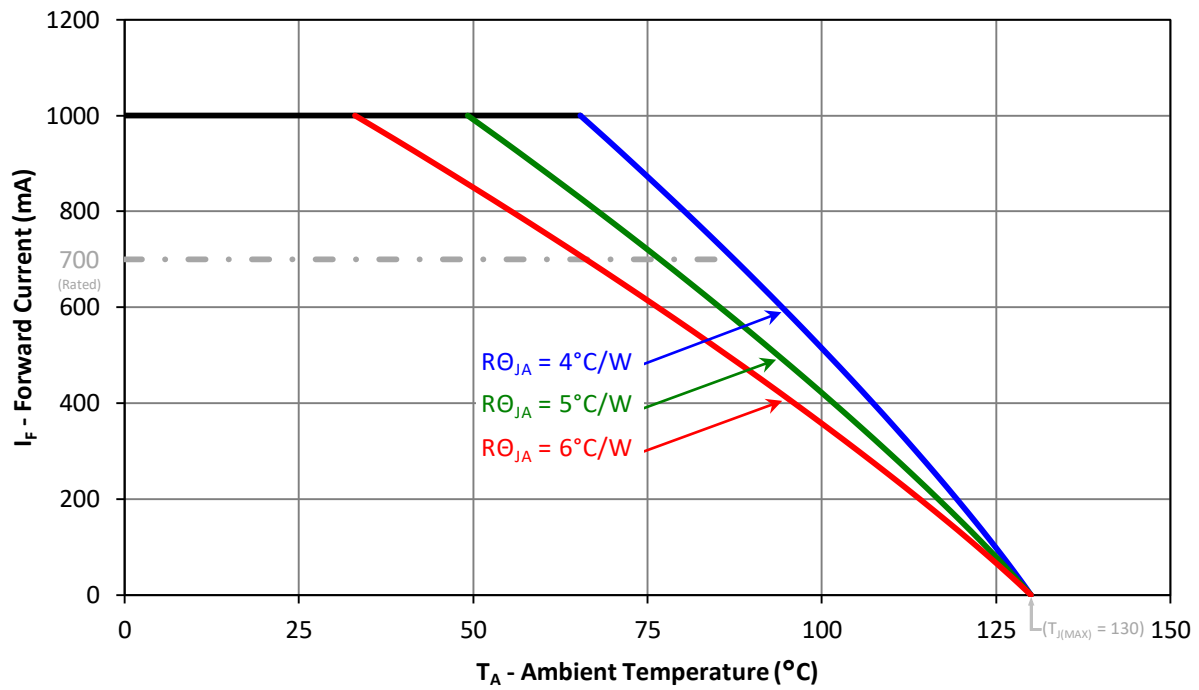

Figure 11: Maximum forward current vs. ambient temperature based on $T_{J(\text{MAX})} = 130^\circ\text{C}$
- Maximum DC forward current is determined by the overall thermal resistance and ambient temperature. Follow the curves in Figure 11 for current derating.
Notes for Figure 11: